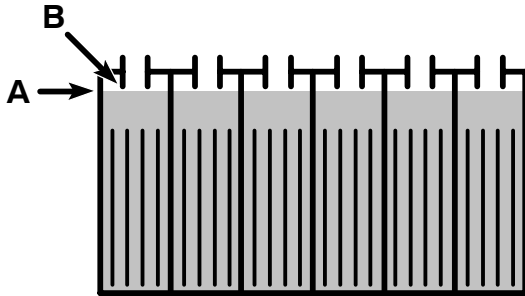

FIG. 43
- Check the electrolyte level (A) in each battery cell **after charging batteries**. The level should be approximately 1 cm (3/8 in) from the bottom of the fill-port (B). Add distilled water if needed (Figure 43).